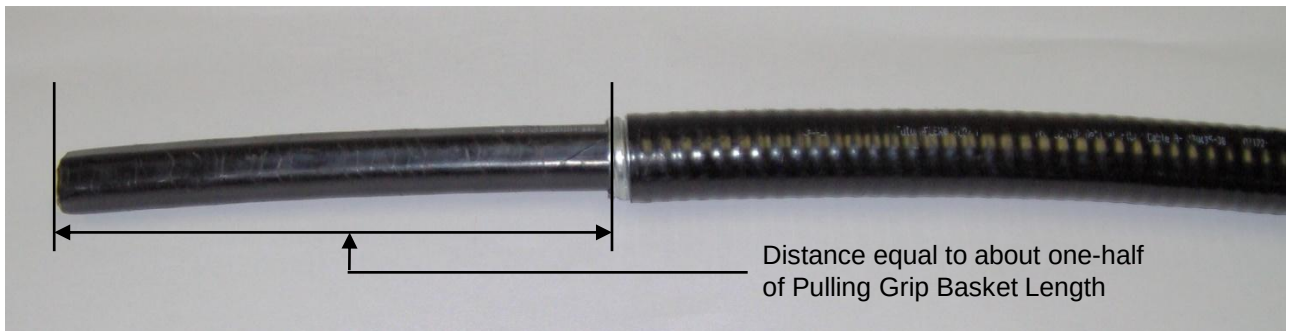

Figure 33
26.5 Unravel the Interlock Galvanized Steel wrap back to where the Polyethylene outer jacket was removed. Bend the steel wrap back and forth until it breaks and remove it from around the core cable. These steps expose a length of core cable beyond the armor. **See Fig. 33.**